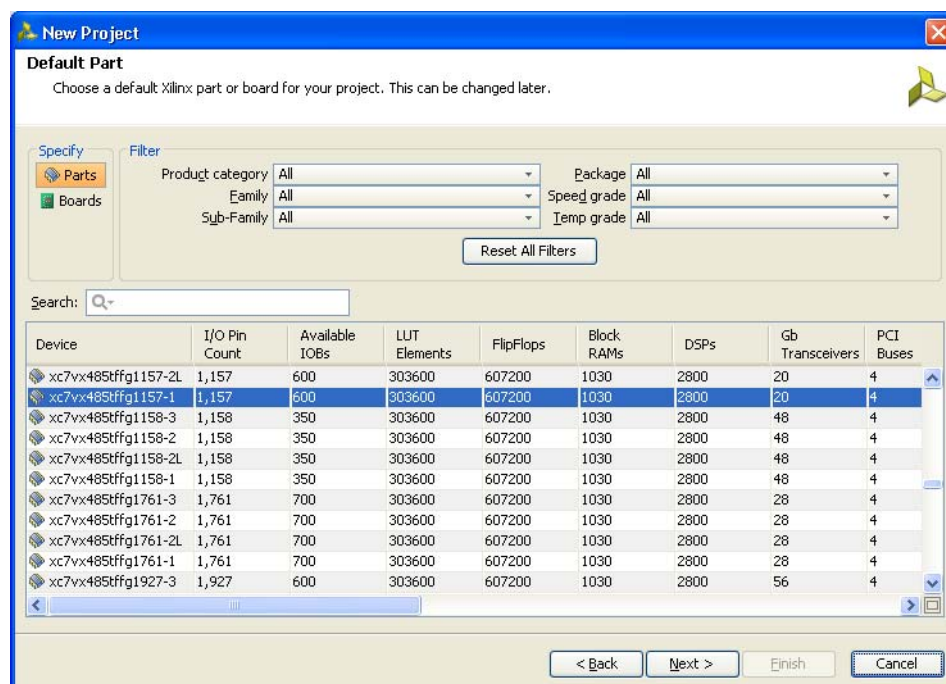

Figure 3-8: Default Part (Default Window)
- Click **Next** to proceed to the **Default Part** page (Figure 3-8) where the device that needs to be targeted can be selected. The **Default Part** page appears as shown in Figure 3-8.